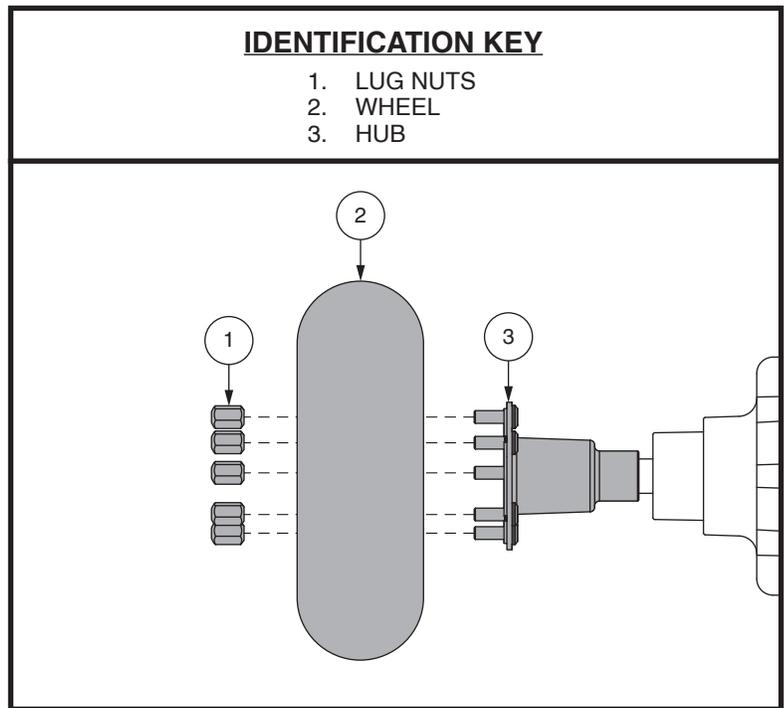

Figure 21. Wheel Replacement
4. Remove the lug nuts from the hub. See **figure 21**.